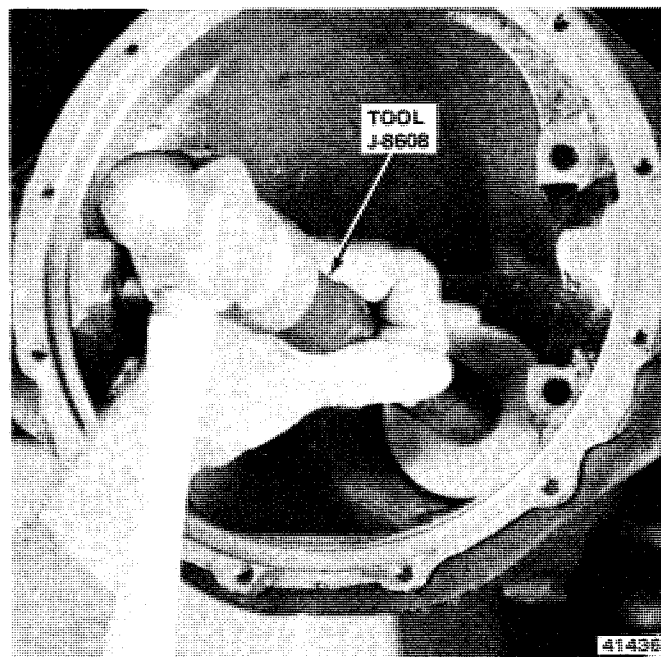

Fig. 2F-37 Pinion Rear Bearing Cup Installation
(7) Install rear bearing cup using tools J-8092 and J-8608 (fig. 2F-37).
(8) Install front bearing cup using tools J-8092 and J-8611-01.